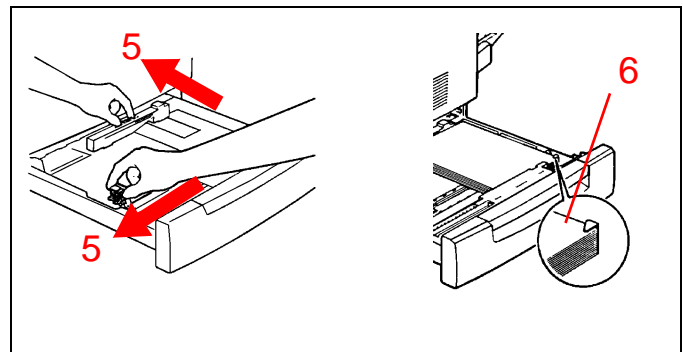

Figure 8
5. See Figure 8. Move the paper guides toward the outer edges of the paper drawer.